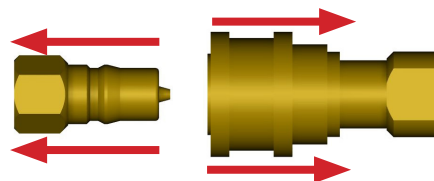

Figure 1
STEP 3: Disconnect hoses by pulling back on Female Quick Disconnect Fitting and pulling male Quick Disconnect Fitting out. **FIG 1**